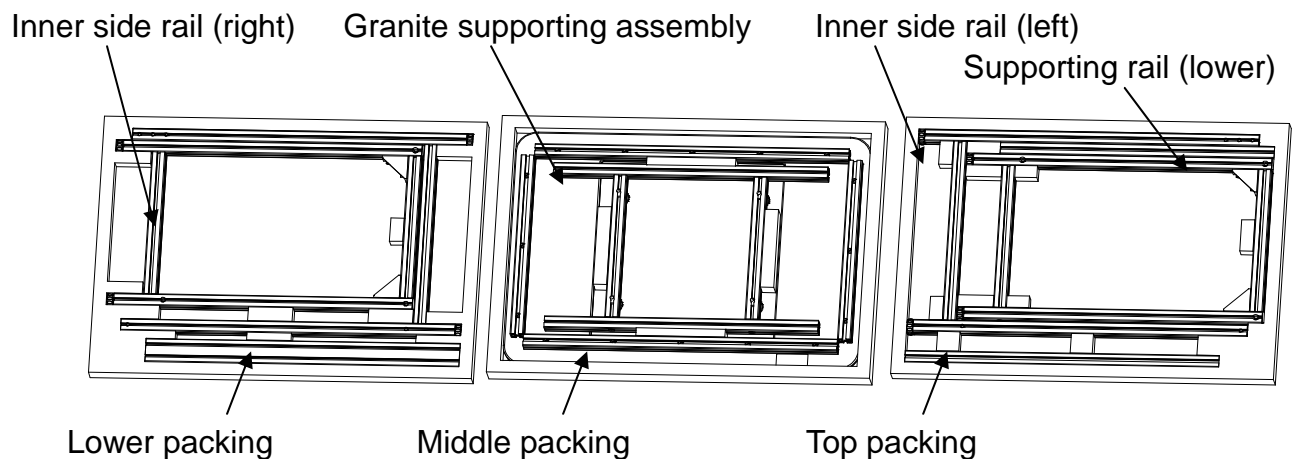

Figure 1: Inner frame packing
**Step One:** Open the packing box, take out the top, middle, lower packing assemblies and the accessory bags, See Figure 1.